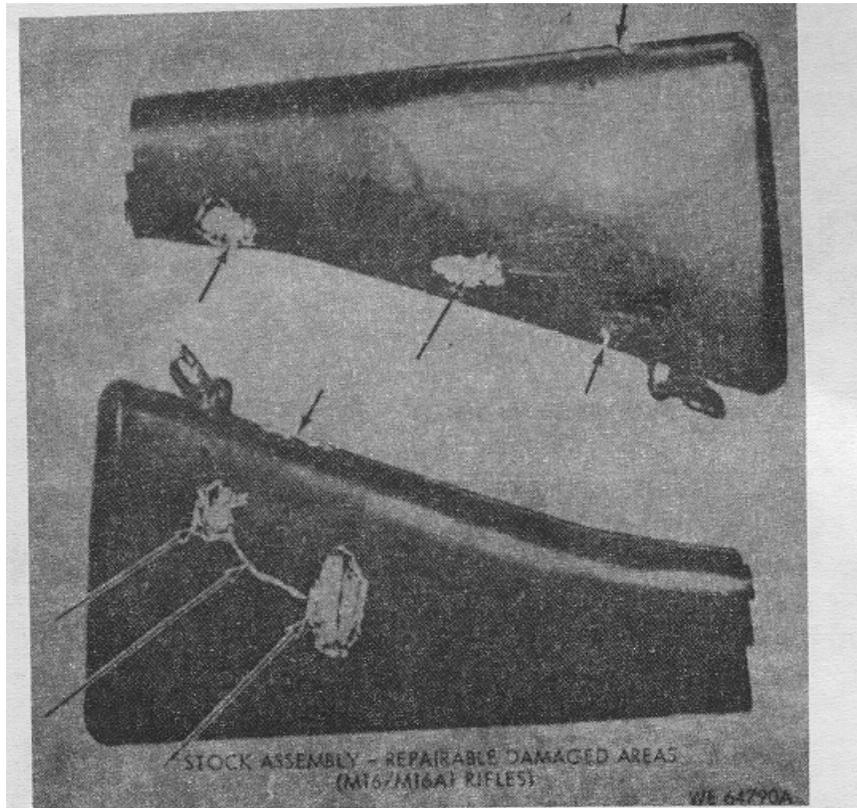

Figure 3-15. Repairable fiber glass/plastic stock assemblies.
- a. Stock assemblies that contain gouges, dents, punctures and crushed areas (fig. 3-15) can be repaired using the procedures indicated below: